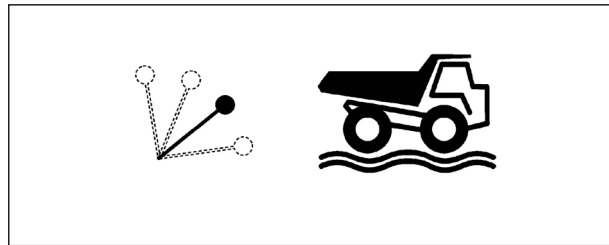

Fig 4.21
1. Make sure the body is fully down and body control lever is in the 'FLOAT' position.(see Figure 4-21)